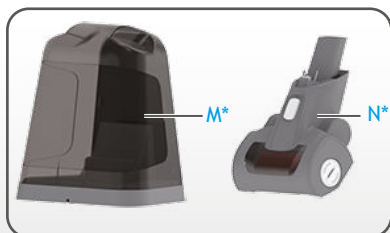

Fig.1-2
1. Insert the battery pack into the product handle and rotate the battery pack cover clockwise. [Fig. 1-2]
2. Make the charger cross through the charge base. [Fig. 1-2]
4. Press the wire into the wire slot. [Fig. 1-2]